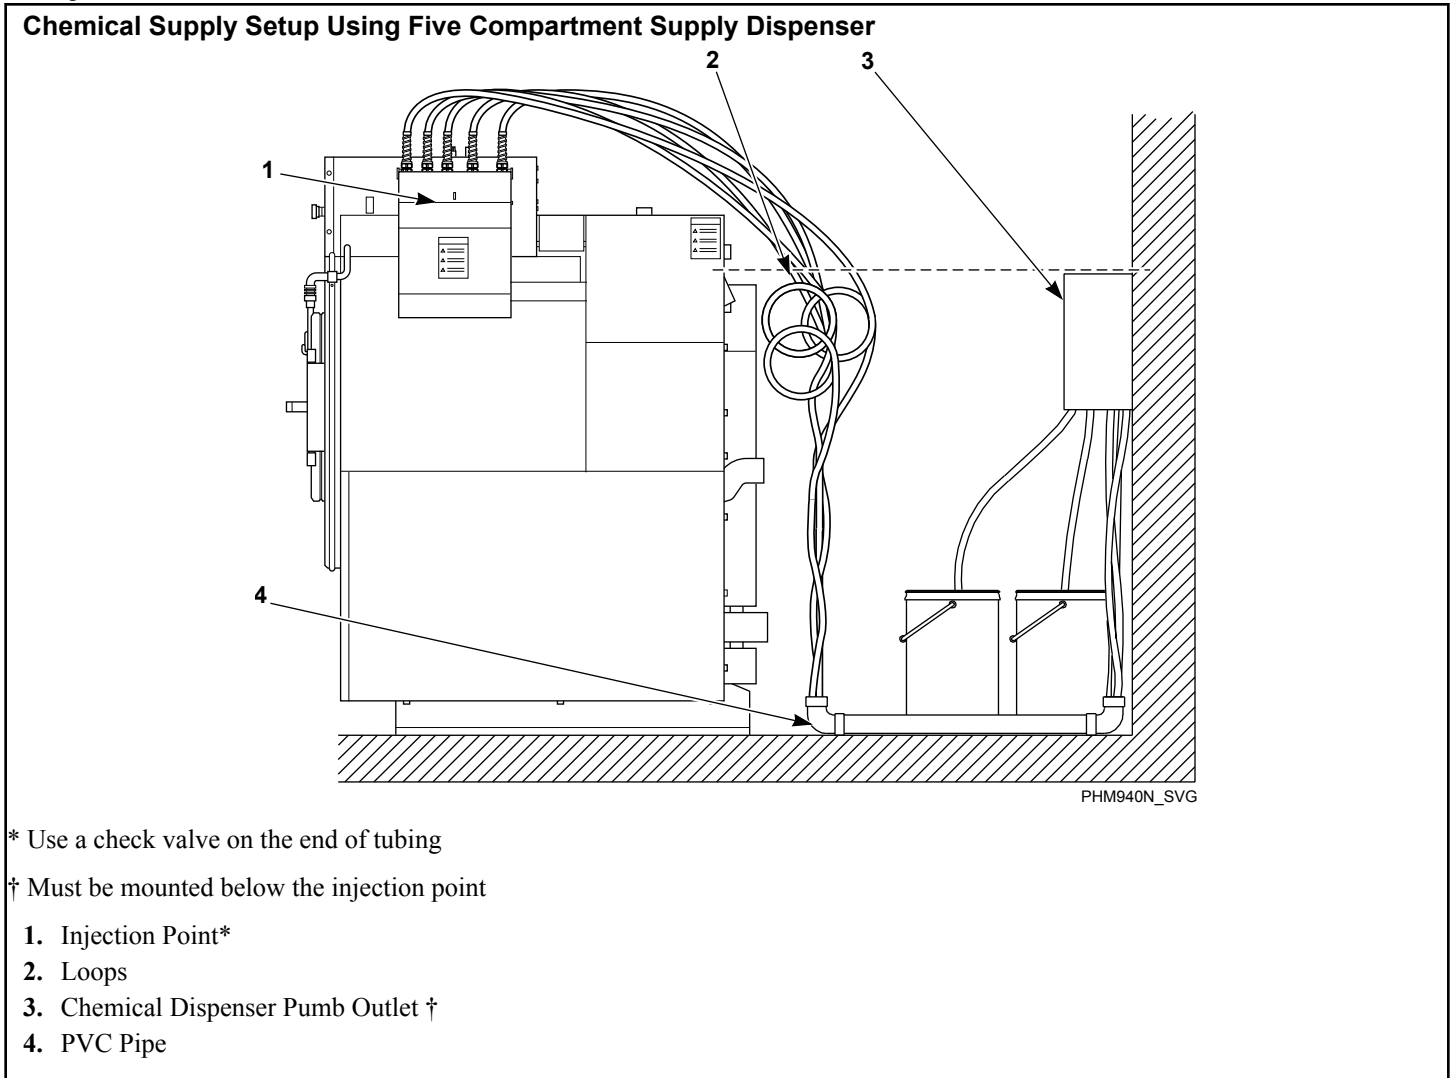

Figure 26
**IMPORTANT:** Undiluted chemical dripping can damage the machine. Therefore, all chemical injector supply dispenser pumps and dispenser tubing should be mounted below the machine's injection point. Loops do not prevent drips if these instructions are not followed. *Figure 23* shows a typical Chemical Injection Supply System. *Figure 26* shows a typical Five Compartment Supply System.